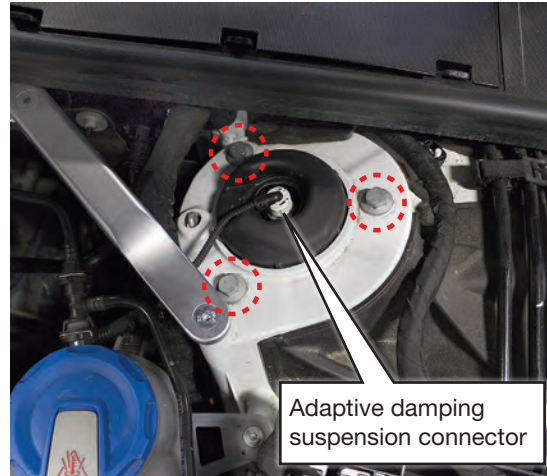

fig. D.1
1. Disconnect the adaptive damping suspension connector on top of the shock (if equipped) (Fig. D.1).
2. Remove the upper shock mount bolts (Fig. D.1).